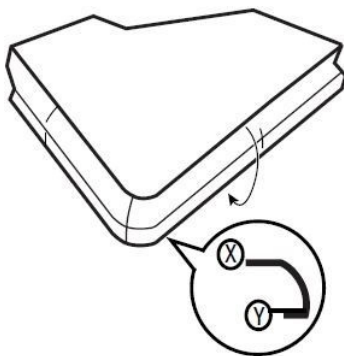

Figure 13. Apply an adhesion promoter between X and Y.
2. Apply adhesion promoter to the edges, starting about 1.3 cm (1/2 in.) from where the shape changes (see Reference X in Figure 13) and extending to the back side of the surface for at least 1.3 cm (1/2 in.) (see Reference Y in Figure 13).